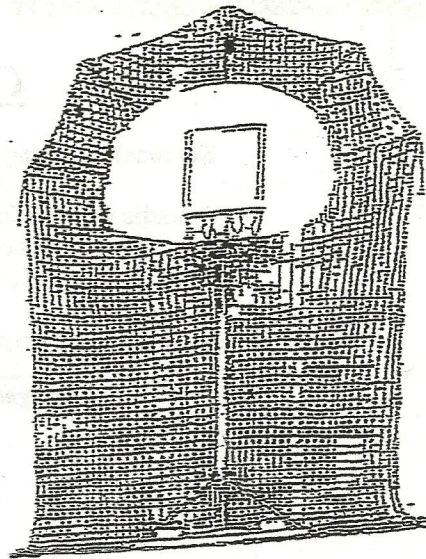

Fig. 6
- b) Spread the net evenly across the back of the upright pole on a line parallel with the playing court. Stake the end of the net into position with the enclosed stakes. (Fig. 6)